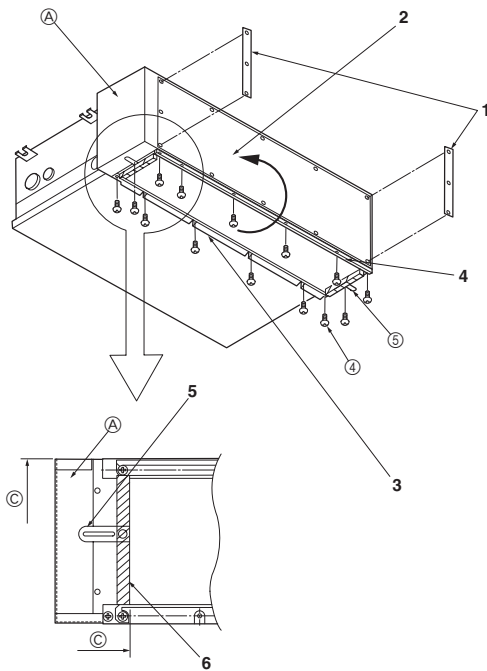

Fig. 8-3
8.3. Filter rail installation (Bottom air intake) (Fig. 8-3)